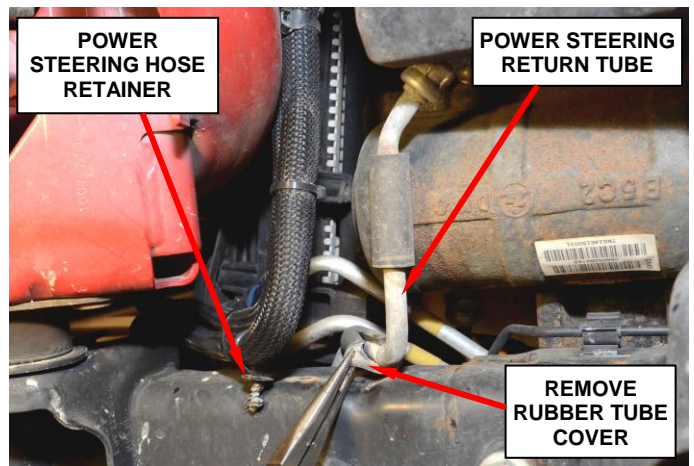

Figure 2 – Remove Rubber Power Steering Return Tube Cover
5. Disengage the power steering hose retainer from the left frame rail (Figure 2).
6. Remove and discard the rubber cover on the power steering return tube (Figure 2).